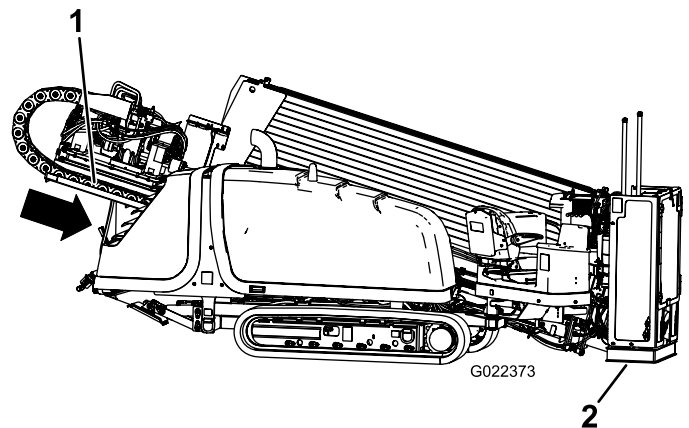

Figure 44
4. Lower the thrust frame, tilting the drill frame until the plate contacts the ground (Figure 44).